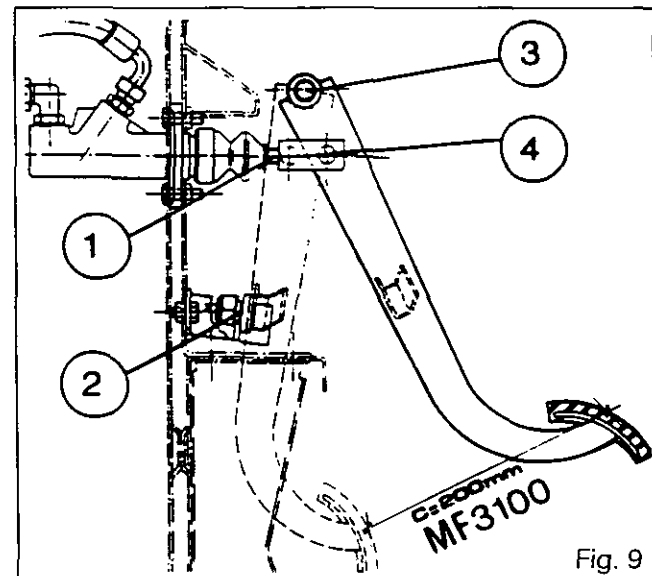

Fig. 9
- 200 mm (3100 tractors) (Fig. 9)